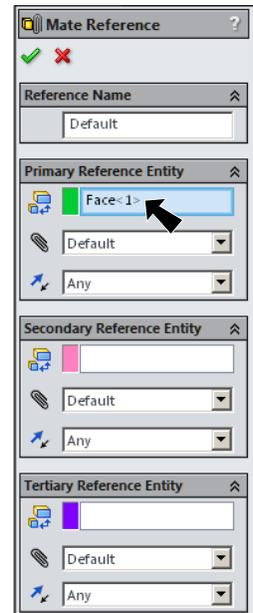

Fig. 6
Step 3. In the Mate Reference Property Manager click OK , **Fig. 6**.